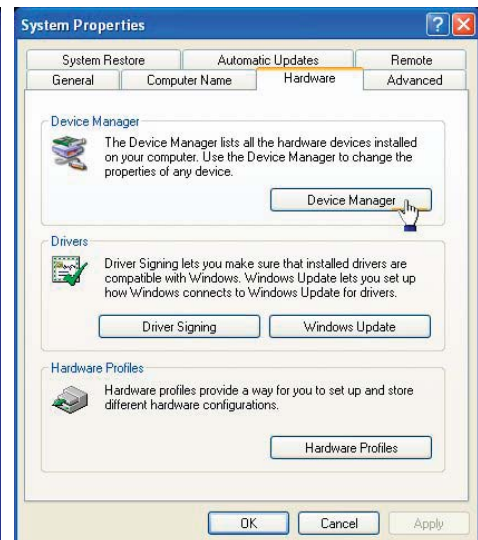

Fig. 55—(Right) System Properties, Hardware tab
3. Choose the **Hardware** tab (Fig. 55).